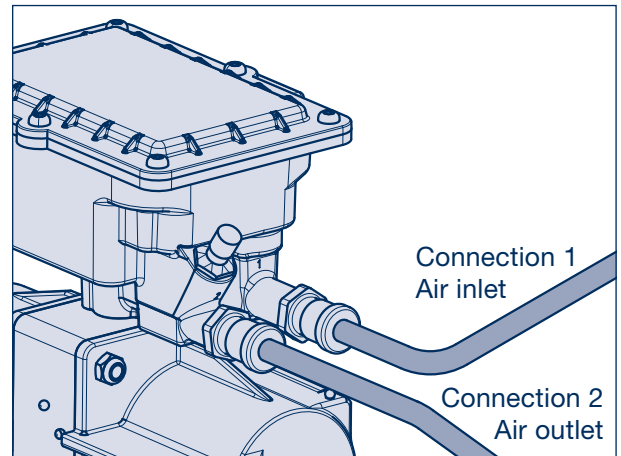

Figure 29
- [1] For axles with air suspension, connect supply lines ($\varnothing 8 \times 1$ mm PA line) to the AirSave Control Box 141 (Figure 29) directly at the air tank of the trailer air suspension.